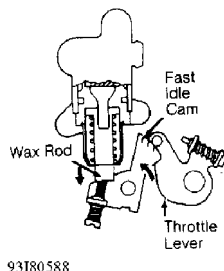
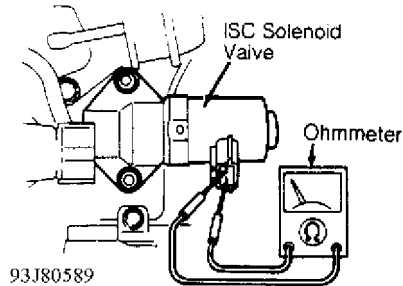
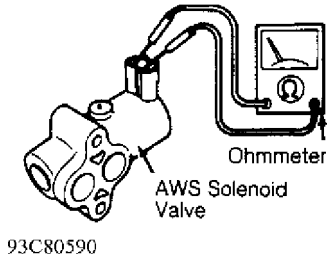

Fig. 53: Checking Fast Idle Cam & Throttle Lever
Fig. 54: Checking ISC Solenoid Valve
Fig. 55: Checking AWS Solenoid Valve
1) Make sure fast idle cam has released throttle lever. See Fig. 53. Disconnect ISC valve electrical connector. Connect ohmmeter to ISC valve 2-wire connector. See Fig. 54. Measure resistance. Resistance should be 10.7-12.3 ohms at 68°F (20°C). If resistance is not within specification, replace ISC valve.
Make sure fast idle cam has released throttle lever. See Fig. 53. Disconnect AWS valve electrical connector. Connect ohmmeter to AWS valve 2-wire connector. See Fig. 55. Measure resistance. Resistance should be 9.3-11.3 ohms at 68°F (20°C). If resistance is not within specification, replace AWS valve.